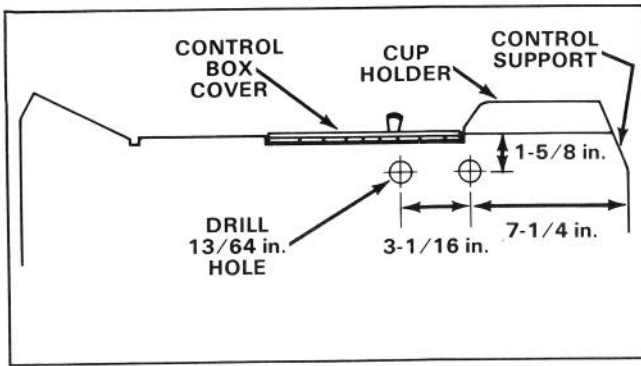

Figure 6
- Close the control box cover. From the mounting edge for the control box cover hinge, scribe a line parallel to the top edge $1-5/8$ in. down on the outside of the control support (Fig. 6).
- Measure $7-1/4$ in. on the $1-5/8$ in. line from the rear of the control support and center punch the location (Fig. 6). Then, measure an additional $3-1/16$ in. from the center punch mark and center punch again (Fig. 6). Drill a $13/64$ in. hole at each center punch location (Fig. 6).